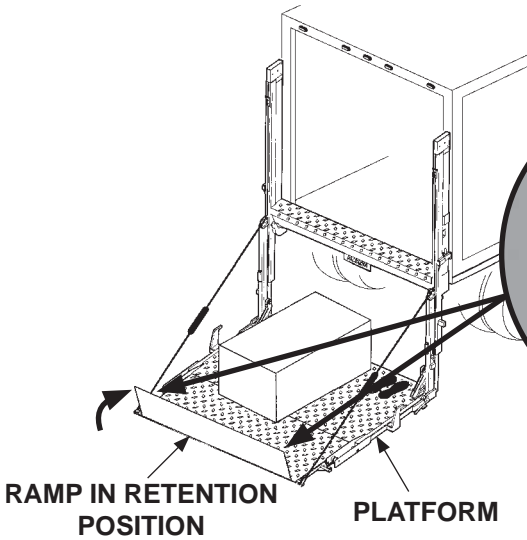

FIG. 22-1
1. Stand on the platform to rotate retention ramp up (if equipped) and fasten in retention position (FIGS. 22-1 and 22-1A). Then, stand in the operator area shown by footprints in FIG. 22-1.